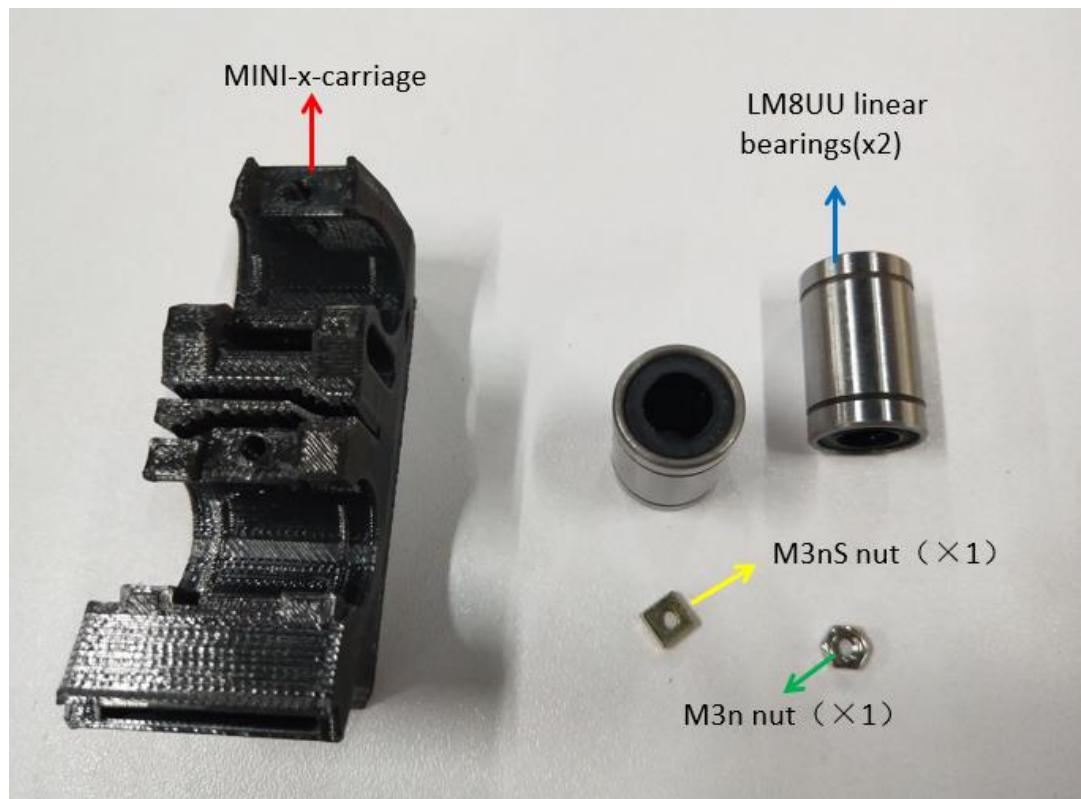

Figure 2.10.1
**Step 2-10-1:** As shown in Figure 2.10.1, prepare the materials and check whether the quantity of materials is correct, and prepare for the next installation.